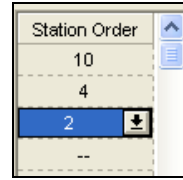

Figure 17.2.14
3. Use this same method to enter all of the stations that you want to view during a Walk Through (Figure 17.2.14).